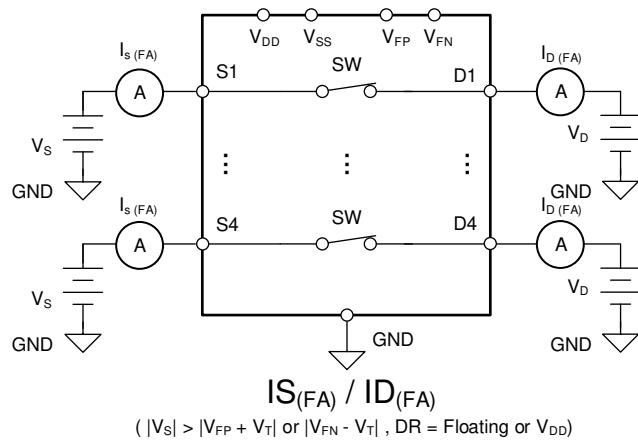

图 7-3. Measurement Setup for Input and Output Leakage Current Under Overvoltage Fault with Normal Supplies
If any of the source pin voltage goes above the fault supplies ( $V_{FP}$  or  $V_{FN}$ ) by one threshold voltage ( $V_T$ ), the TMUX7462F's overvoltage protection feature is triggered to turn off the switch under fault, keeping the fault channel in the high-impedance state.  $I_{S(FA)}$  and  $I_{D(FA)}$  denotes the input and output leakage current under overvoltage fault conditions, respectively. The supply (or supplies) can either be in normal operating condition (图 7-3) or abnormal operating condition (图 7-4) when the overvoltage fault occurs. The supply (or supplies) can either be unpowered ( $V_{DD} = V_{SS} = V_{FN} = V_{FP} = 0$  V), floating ( $V_{DD} = V_{SS} = V_{FN} = V_{FP}$  = No Connection), or at any level that is below the undervoltage (UV) threshold during abnormal operating conditions.